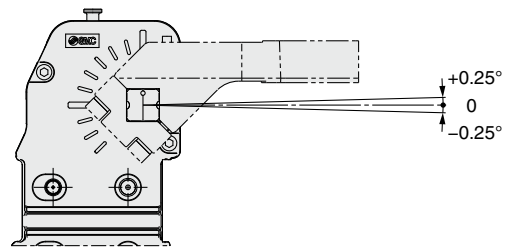

Figure 1
- 2) There is a mechanical difference of -0.25° to $+0.25^\circ$ at the clamping end as shown in Figure 1. Be sure to make adjustments externally using a shim. Refer to page 48.